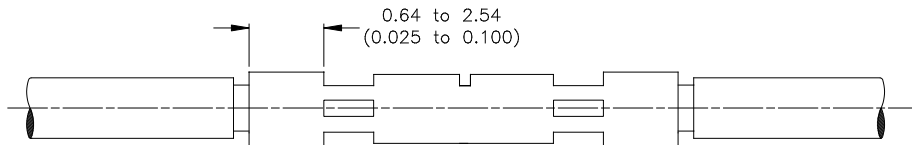

Figure 6
- A) Care must be exercised in using the MS 3191-4 Crimp tool, without turret, to insure proper location of the crimp splicer relative to indenters. Indenters must contact splicer barrel midway between the wire stop and end of splicer. (See Figure 6).